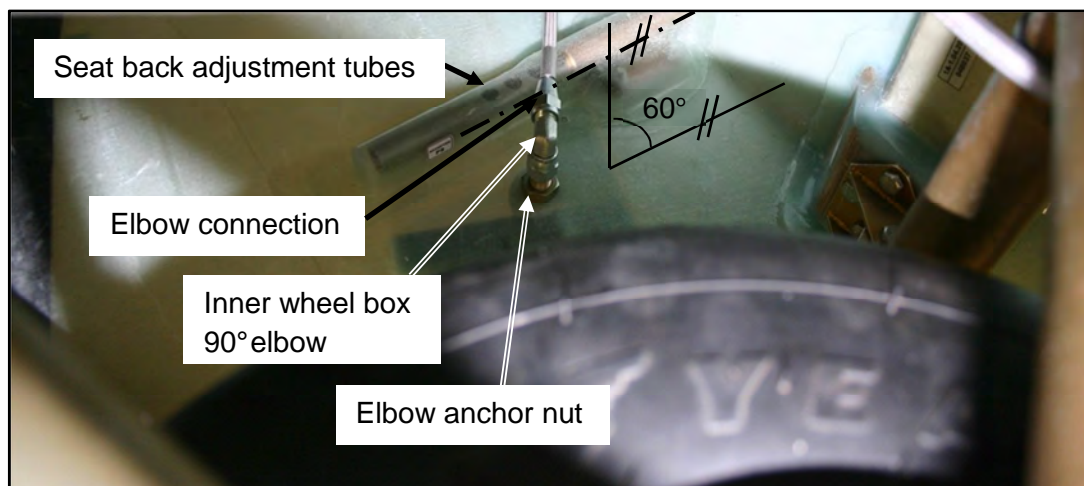
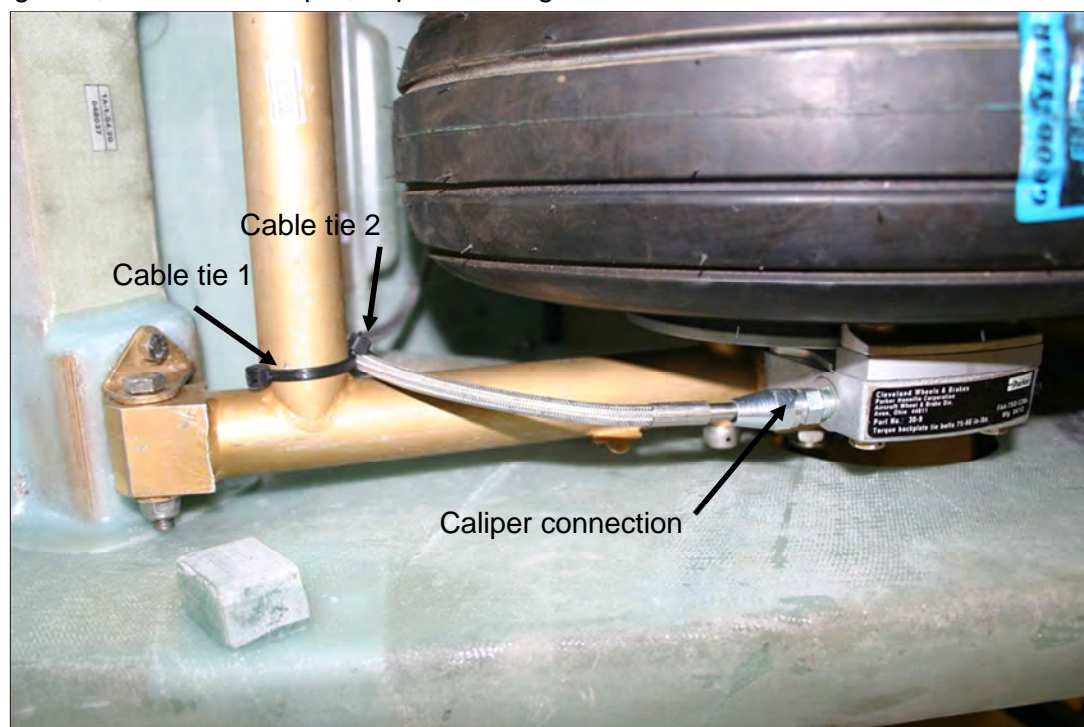

Figure 2: High Pressure Brake Hose entering into wheel box
Figure 3: High Pressure Brake Flexible hose connected to caliper and fixed to landing gear arm
7. Hold the elbow (5.3.06) in position from the access hole from cockpit side, using a spanner, and secure the elbow with the anchor nut from inside of the wheel box. See Figure 2. Ensure it is tight enough to prevent the elbow straight side from rotating. If the elbow still rotates after tightening contact Jonker Sailplanes.
8. Hold the wheel box-mounted elbow (5.3.06) through the access hole from cockpit side, using a spanner. Remove the flexible hose at the elbow (5.3.07), depicted in Figure 2, then at the caliper, depicted in Figure 3.
9. Still holding the wheel box-mounted elbow (5.3.06) through the access hole from cockpit side, adjust the angle of elbow inside the wheel box (5.3.07 Elbow Female/Male: 1J9-0404) as depicted in Figure 2, pointing toward the top of the glider and slightly forward, inclined approximately 60° relative to the seat back adjustment tubes, as shown in Figure 2, or approximately parallel to the belly hook brackets. Once the angle is set correctly, tighten the inner elbow's union (5.3.07).
12. Apply the cable ties as shown in Figure 3. Tie one cable tie loosely around the crossbar. Secure the flexible hose (5.3.04) to the first cable tie with a second cable tie, and then secure the first cable tie to the landing gear arm.